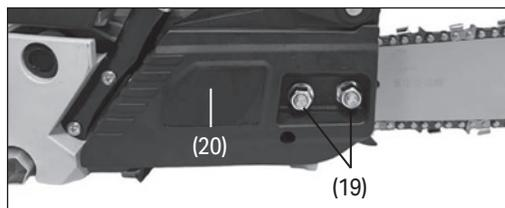

Fig.3
2. Use a spanner to remove the two guide bar locking nuts (19). Then remove the clutch cover (20). (Fig. 3)